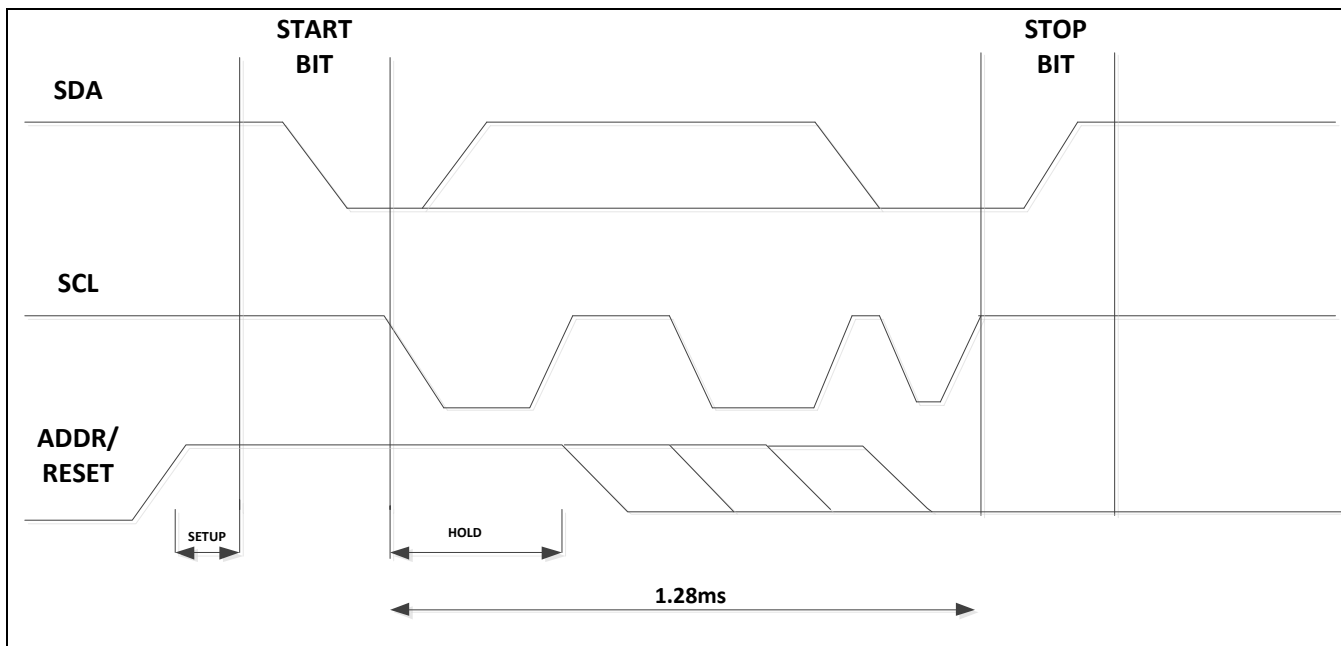

Figure 2. Reset Assert and Deassert Timing Sequence
After the initial powerup, the ADDR/RESET multiplexed pin acts as a digital input pin for RESET. The RESET can be asserted by using both the RESET pin and a request in the SMBus module by using SCL and SDA (START and STOP detection). As shown in Figure 2, the following sequence asserts RESET in MAX34427:
1. Pulling RESET pin from low to high before a START condition of SMBus, triggers a RESET sequence. The “setup” and “hold” time to hold Reset “high” is around 40µs as shown in Figure 2. It ensures the correct sampling of Reset pin’s “high” state. Before forcing the “high” state, make sure to leave RESET pin free by defaulting the controller I/O drive on the pin to “high impedance”.